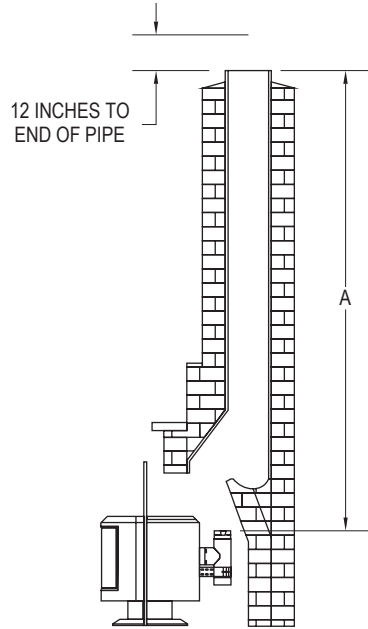

Figure 8
3. Measure and record the dimensions as shown in **Figure 8**.